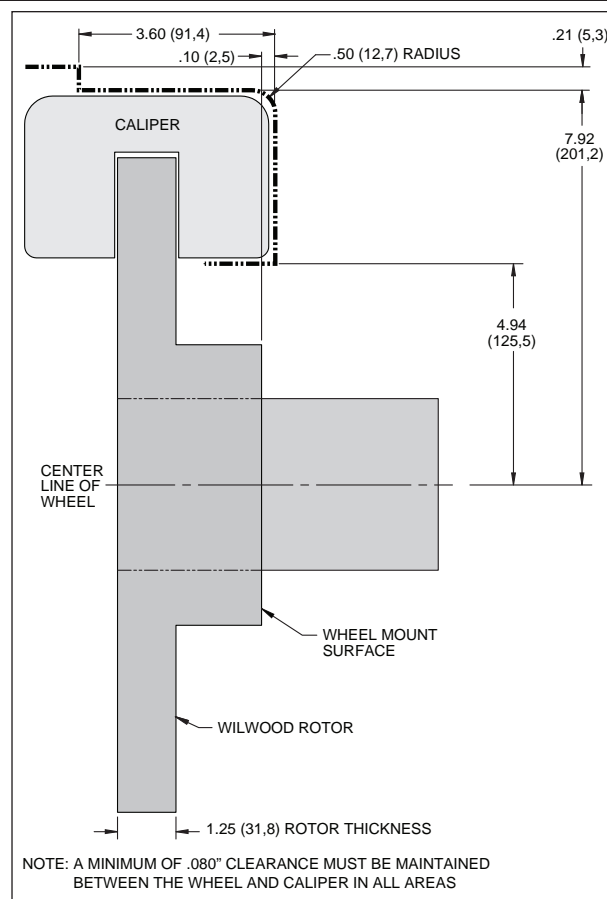

Figure 3. Wheel Clearance Diagram
- Review the Wheel Clearance Diagram (Figure 3, page 3) to verify that there is adequate clearance with the wheels you will be using with the installation.
- Verify your wheel clearance using Figure 3.